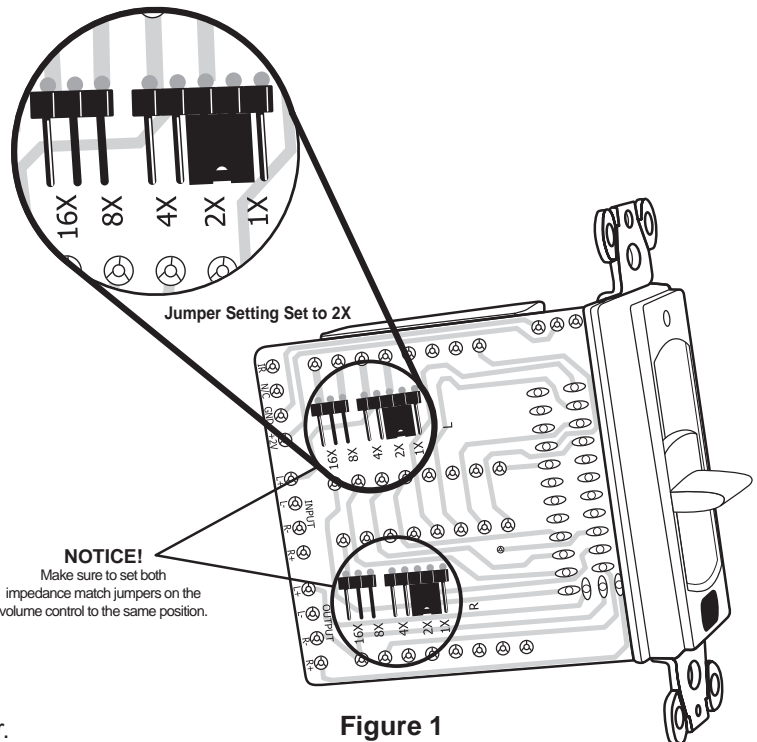

Figure 1
- Set the impedance match jumpers on all of the volume controls in the system to the same position (1X, 2X, 4X, 8X or 16X). See Figure 1.